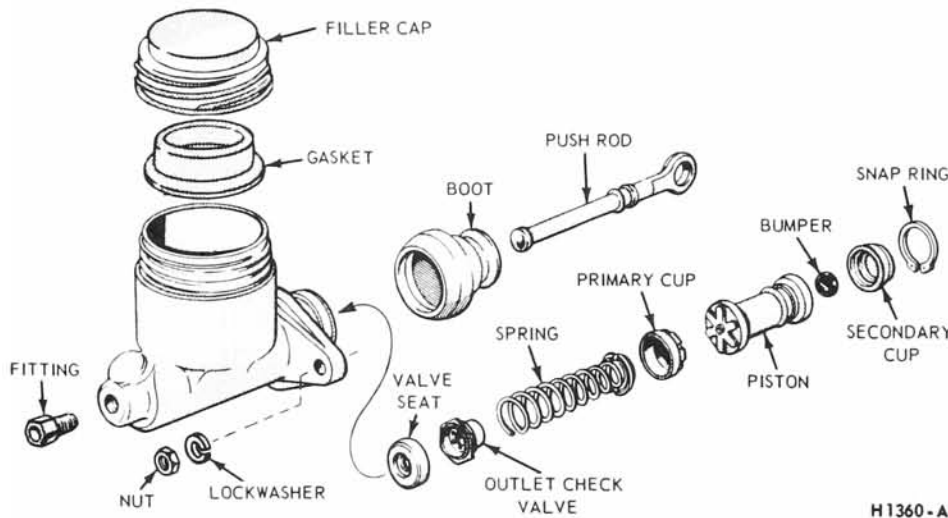

FIG. 18—Master Cylinder with Standard Brake System
3. When disassembling a master cylinder used with the standard brake system, remove the piston assembly, cup, spring, check valve, and valve seat from the cylinder bore (Fig. 18).
3. A leaf-type valve is riveted to the front end of the piston in a master cylinder used with the standard brake system (Fig. 18). If this valve is loose or has moved so that the piston ports are open, replace the piston.
3. When assembling a master cylinder used with the standard brake system, install the valve seat, check valve, spring, cup, and piston assembly in the cylinder bore (Fig. 18).
bly in the cylinder bore (Fig. 18).